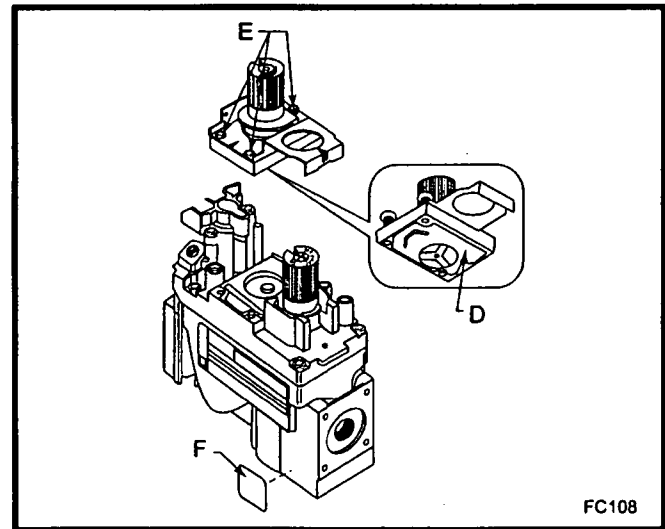

Fig. 57 Replace regulator.
14. Insure the rubber gasket (D) is properly positioned and install the new HI/LO pressure regulator assembly to the valve using the new screws (E) supplied with the kit. Tighten the screws securely. (Ref. torque = in/lb) (Fig. 57)
15. Install the enclosed identification label (F) to the valve body where it can easily be seen. (Fig. 57)